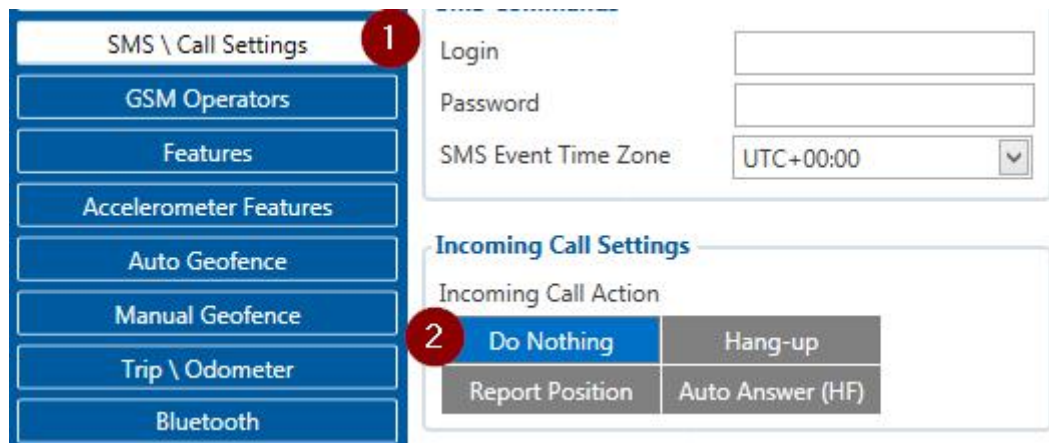

Figure 32 Incoming Call Action settings
- Go to “SMS \ Call Settings” in left menu and set “Incomming Call Action” to “Do Nothing” visible at Figure 32.